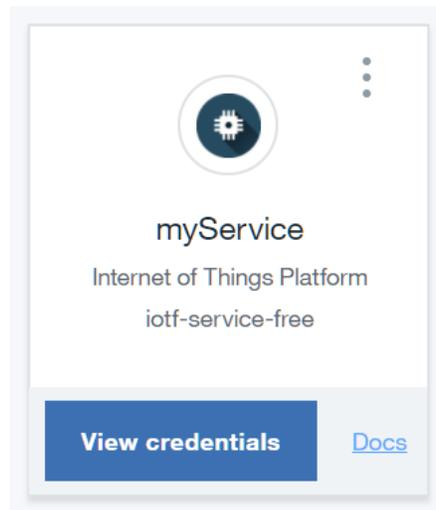

Figure 29. Click *View credentials* to Display Credentials for the Service Created in **Section 7.3**
- Click **View credentials** (see **Figure 29**). This displays all the information necessary to launch your BBB gateway.